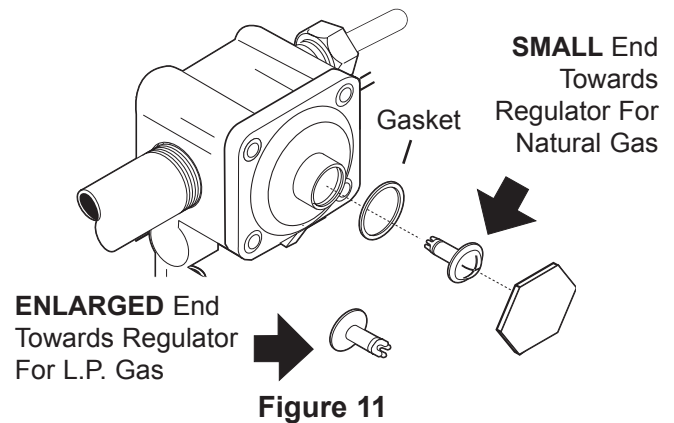

Figure 11
**Convert the Pressure Regulator for use with LP Gas** (see Figure 11).